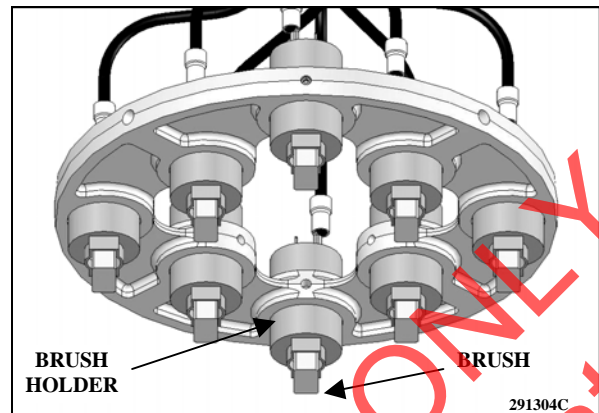

Figure 4-5. Brush Holder Assy.
4. Remove lead wire from brush holder. Remove the worn brush from the brush holder in the brush holder plate. (See Figure 4-5).